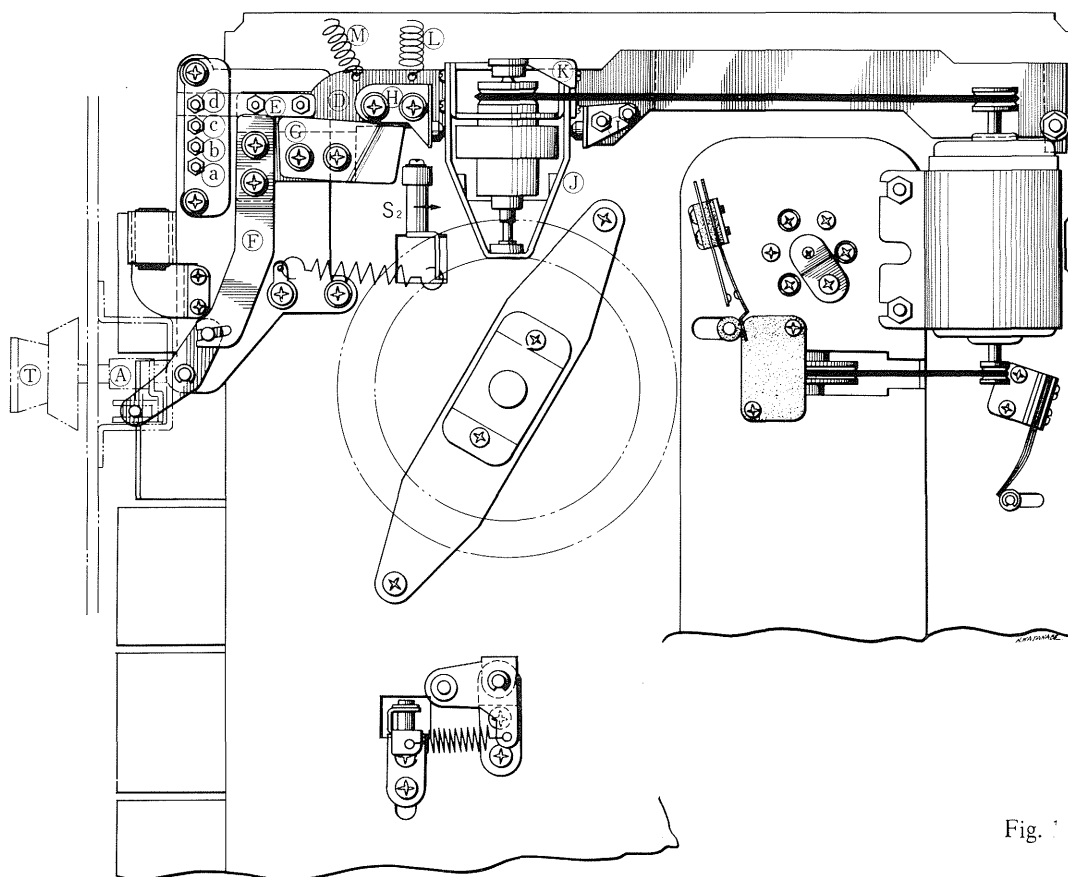
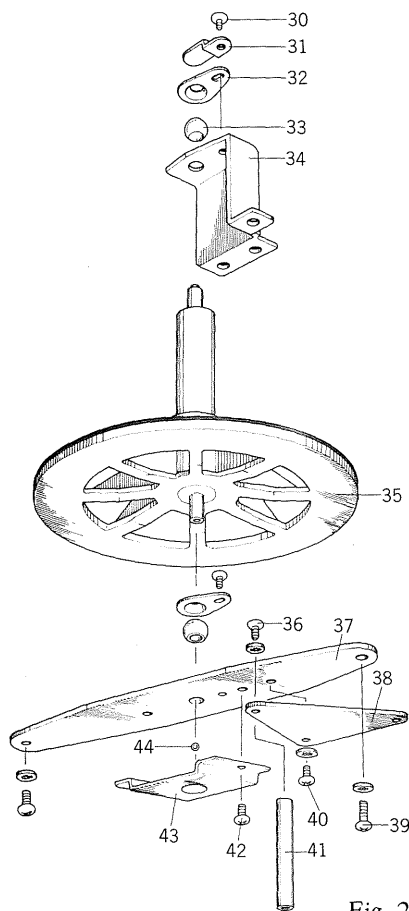

Fig. 1
Fig. 2
1. ADJUSTMENT OF SPEED CHANGE MECHANISM (As shown in Fig. 1)
2. ADJUSTMENT OF THE SWITCH LEVER (C) (As shown in Fig. 1)
3. ADJUSTMENT OF THE 5-STEP WHEEL ASSEMBLY (Fig. 1)
- a) Adjust the positions of the wheel holder tables (H) and (I), so that the clearance between the wheel holder tables (H) and (I) and the wheel holders (J) and (K) is from 0.1 to 0.2 mm.
4. The tension of the spring (M) of the switch lever (D) is to be 100 ± 10 g, with the spring stretched to a length of 43 mm.
5. ADJUSTMENT OF FLYWHEEL (RUBBER-WHEEL) GAP (Fig. 2)